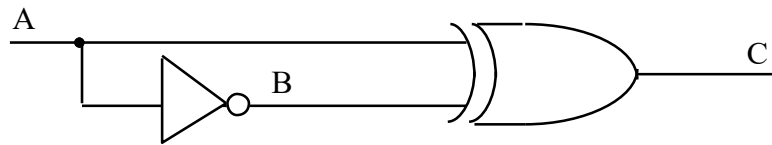
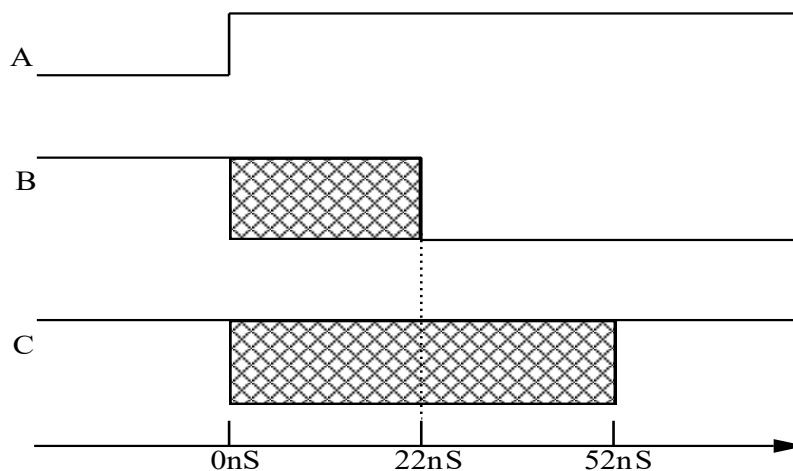

FIGURE 10
FIGURE 11
The circuit of Figure 10 should always output a logic one at C as it implements the steady-state logic equation $C = A \oplus \bar{A} = 1$. However, due to the finite delays of the gates used, it may momentarily output a logic zero (a glitch) right after the input A changes. The inverter in the circuit of Figure 10 is from a 7404 chip. The 7404 has a typical propagation delay of 10ns, and a guaranteed maximum delay of 22ns. The exclusive-or gate (7486) has a typical delay of 14ns and a maximum of 30ns. Note that neither of these gates has a guaranteed minimum delay time; therefore, the assumed minimum delay is zero. When preparing a timing diagram always use the worst-case propagation delays, not the typical!
A timing diagram for the circuit of Figure 10 is given in Figure 11. At time $T = 0$, the input A changes from a zero to a one. The output of the inverter (B) is unknown from time $T = 0$ until time $T = 22$ ns. The value of B probably changes somewhere around 10ns (the typical delay time), but the output cannot be guaranteed until $T = 22$ ns. Since B is an input to the XOR gate, its output cannot be guaranteed until 30ns (maximum propagation delay) after the value of B is known. The cross-hatched areas in the timing diagram are the times when the signal value is unknown. The XOR output, C, is unknown for 52 ns after the input A changes. During those 52 ns, the output may be at logic zero or logic one. If it becomes a logic zero at any instance during these 52ns, then the circuit is said to produce a glitch.